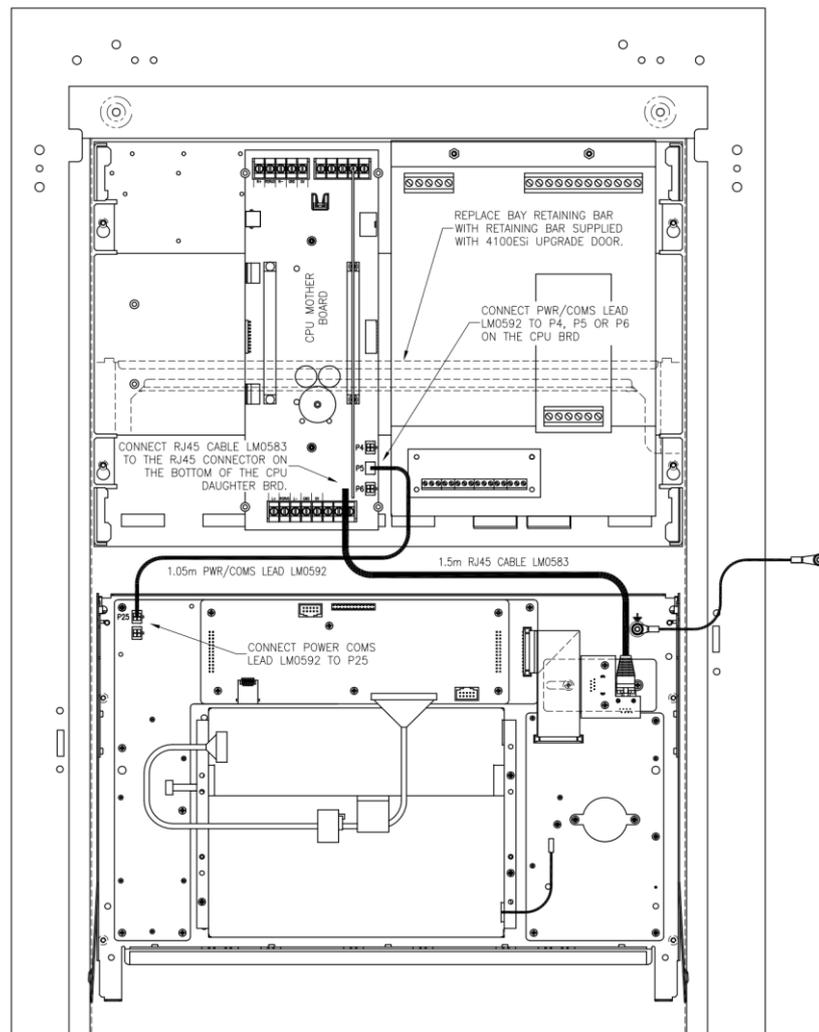

Figure 3 – Connecting the new InfoAlarm+ display door to the CPU bay
- Connect the InfoAlarm+ door to the bay, as shown in Figure 3: